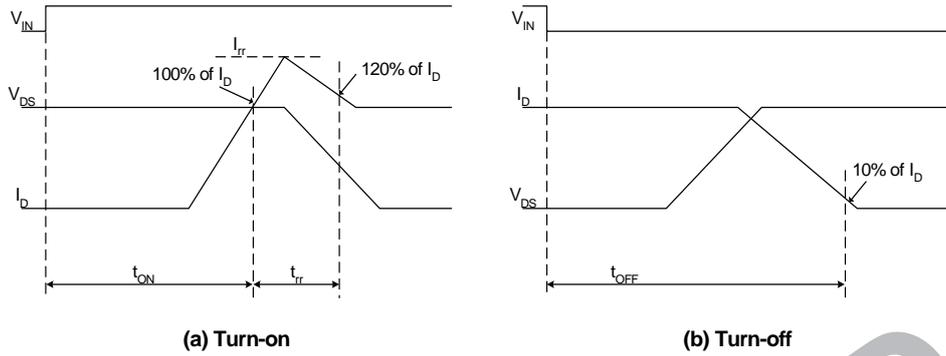
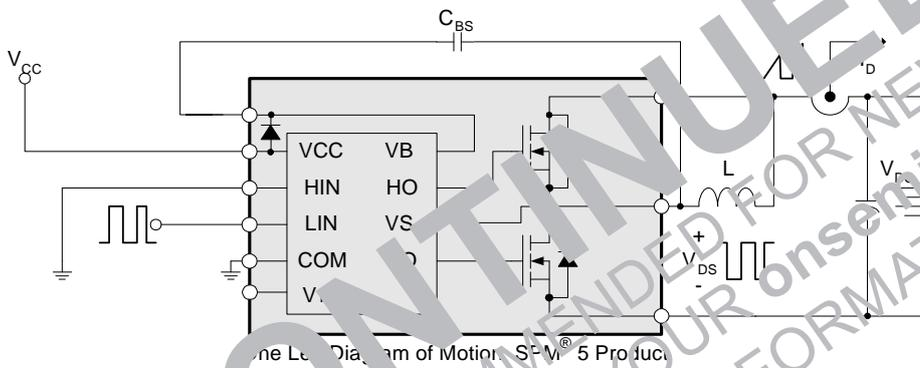

Figure 6. Switching Time Definitions
Figure 7. Switching an RDSOA (Single-pulse) Test Circuit (Low-side)
- t_{ON} and t_{OFF} include the propagation delay of the internal drive IC. Listed values are measured at the laboratory test condition, and they can be different according to the field applications due to the effect of different printed circuit boards and wirings. Please see Figure 6 for the switching time definition with the switching test circuit of Figure 7.
- The peak current and voltage of each MOSFET during the switching operation should be included in the Safe Operating Area (SOA). Please see Figure 7 for the RBSOA test circuit that is same as the switching test circuit.